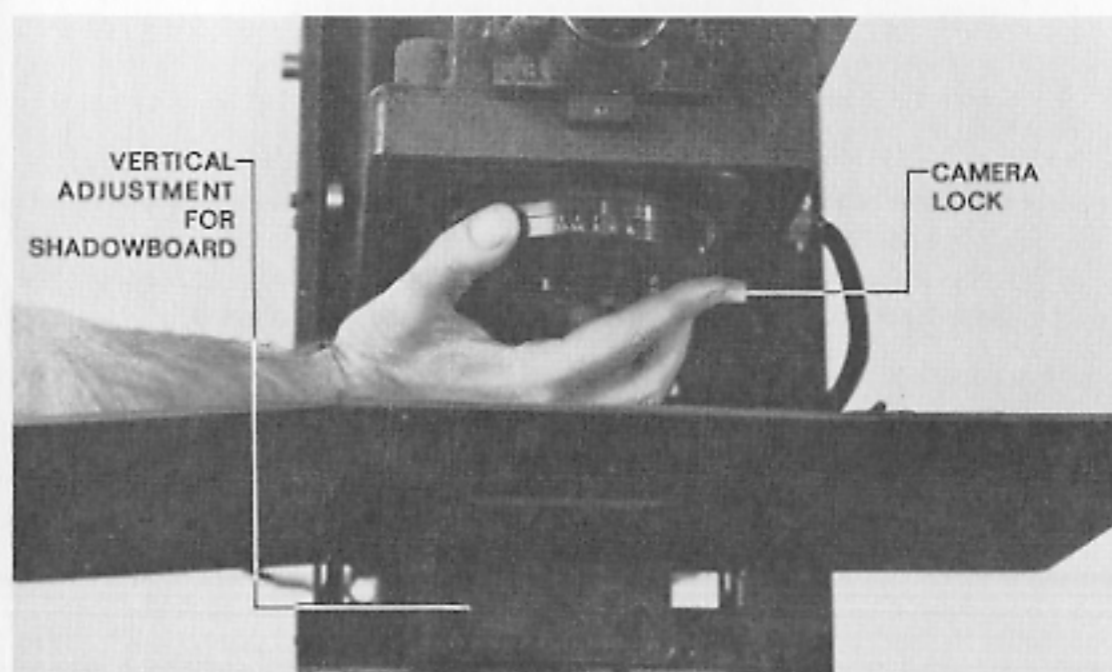

figure 22. Rotate Iris Ring until line on ring lines up with proper "f" stop number.
b) Select the proper iris setting by rotating the ring (See Fig. 22) until the line on the ring and the proper "f" stop number line up. (See 3.1.4).